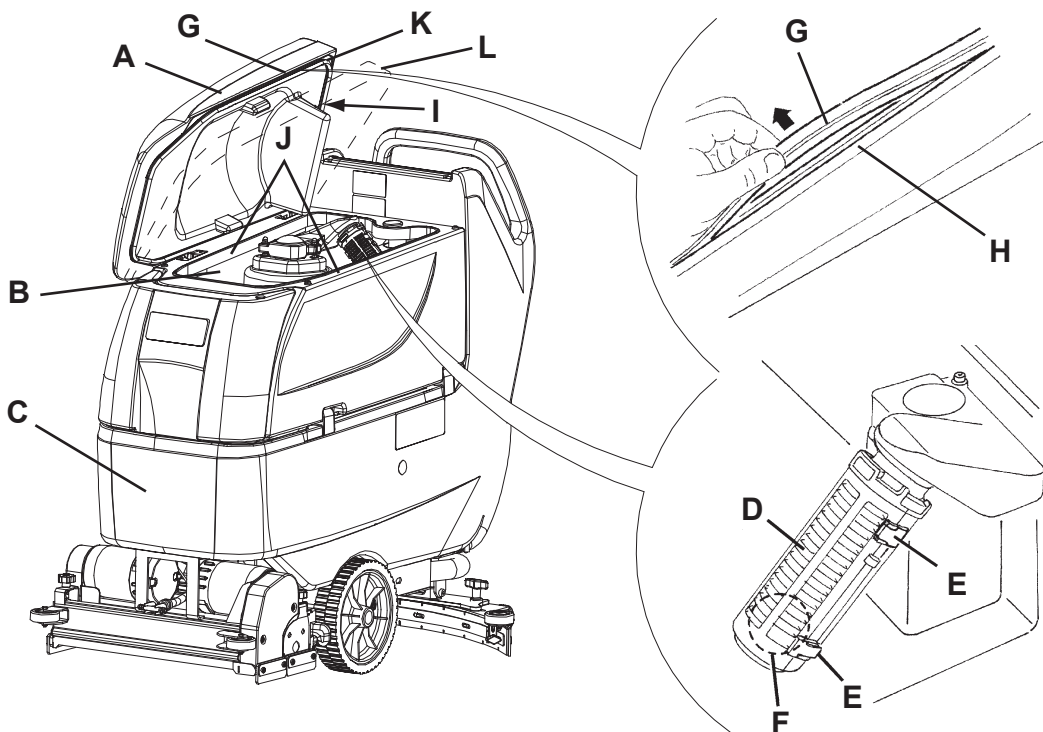

Figure 8
3. Open the cover (A, Fig. 8) to washing position (L).
4. Wash with clean water the cover (A), the tanks (B and C) and the vacuum grid with automatic shut-off float (D).
6. If necessary, release the fasteners (E) and open the grid (D), recover the float (F), clean all the components and then reinstall them.
7. Check the tank cover gasket (G) for integrity.